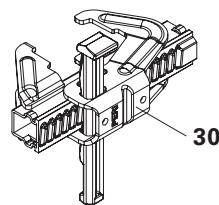

Fig. B1.06
4. Connect the Heated Formwork Panel to the designated frame struts using the Alignment Coupler BFD (30). (Fig. B1.06 + B1.06a)